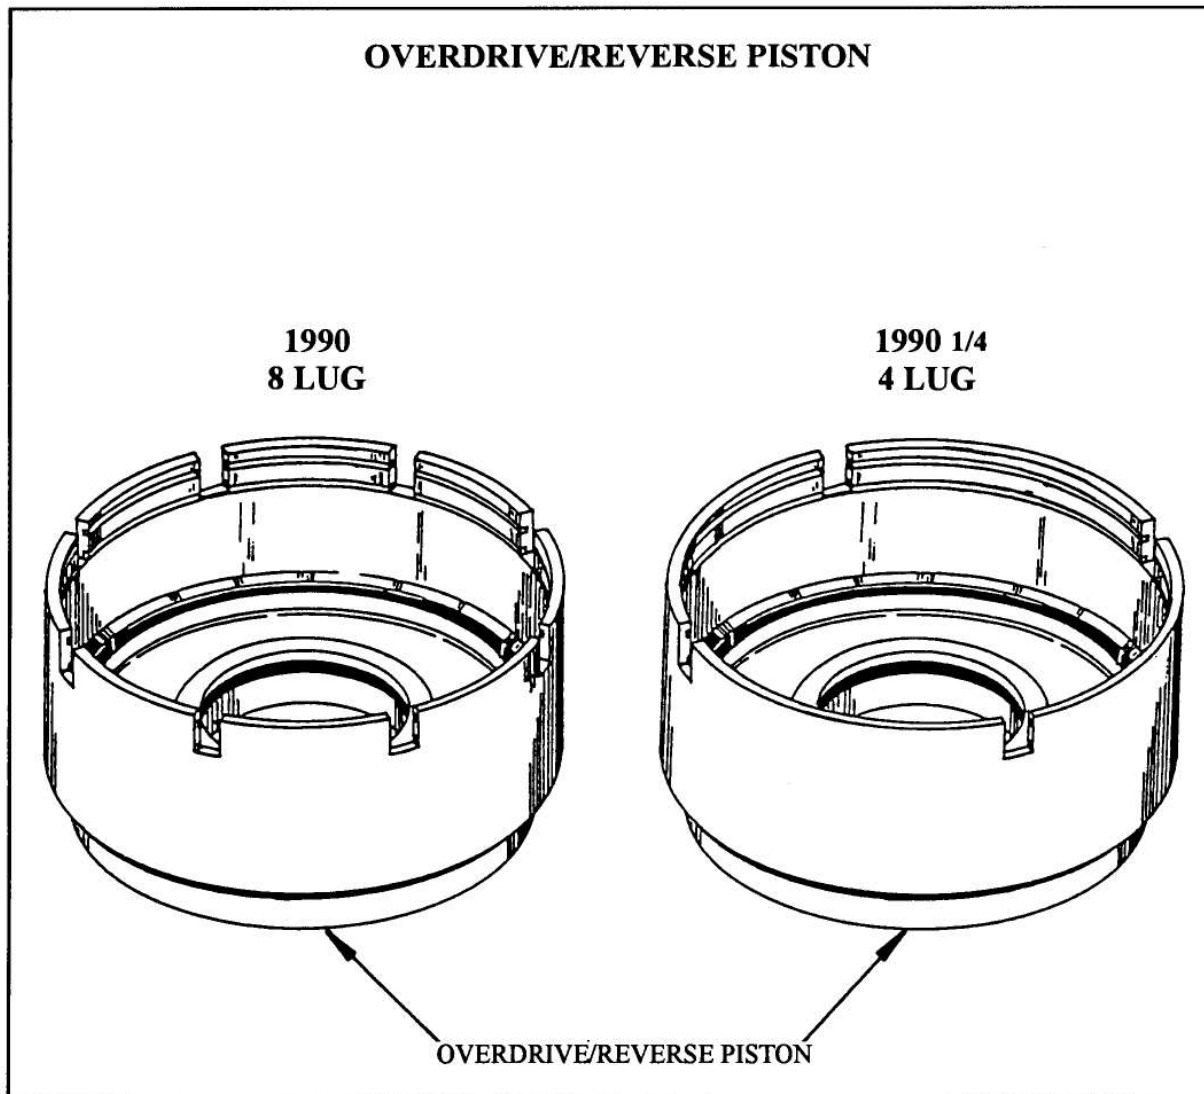

Figure 34
CHANGE: A new Overdrive/Reverse Piston has been introduced for 1990 1/4 model transaxles, and features four reaction plate slots instead of eight slots (See Figure 34).
- (1) **OVERDRIVE/REVERSE PISTON** - The new Overdrive/Reverse Piston has four slots, for the pressure plate lugs, instead of the previous eight slots and can be identified visually (See Figure 34). The inside diameter of the new pistons bottom corner also has a larger radius to accommodate a new 1990 1/4 Input Clutch Retainer dimensional change (See Figure 35).